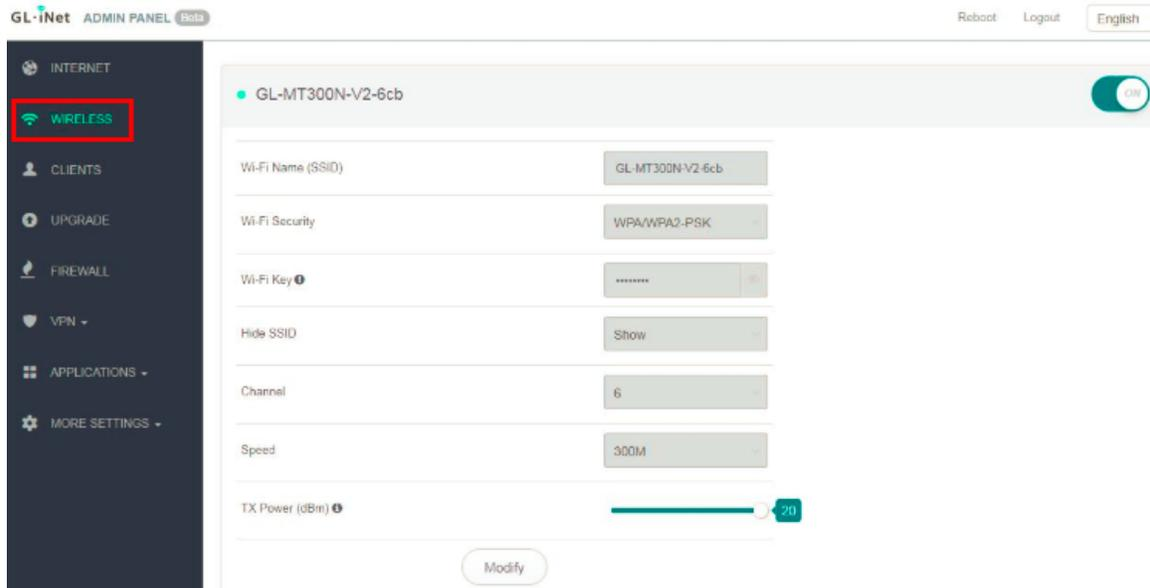

Figure 10: Wireless Settings Panel
- a. On the left side of the screen, click **WIRELESS** (see Figure 10).